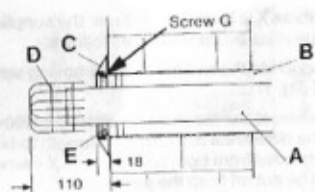

Fig. 17
- 5.5.15** Check also that the outer end of the flue projects as indicated in fig. 17.
- 5.5.18** Seal the peripheral gap around the outer tube with cement or mastic and slip the cosmetic flexible plastic collar (fig. 17 item C) into groove on the pipe. This operation can only be carried out with external access. Seal the internal wall face around the air duct.
- NOTE: The two tubes must be separated by removing screw G fig 17 before cutting.